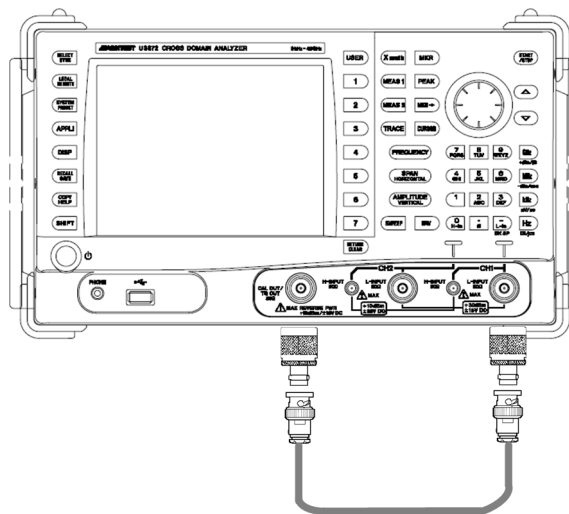

Figure 3-8 Connecting the CAL Signal
6. Connect as shown in Figure 3-8 by using the included N-BNC adaptor and input cable (A01037-300).